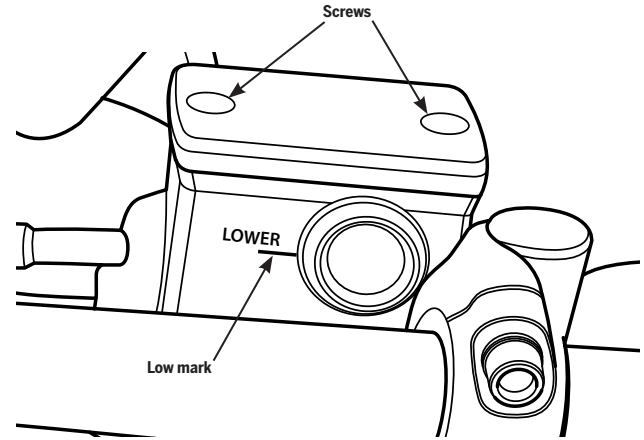

Figure 53: Checking the Brake Fluid Level
4. Inspect the sight glass and determine if fluid is below the "low" mark (**Figure 53**). If fluid is below the "low" mark, brake fluid needs to be added.